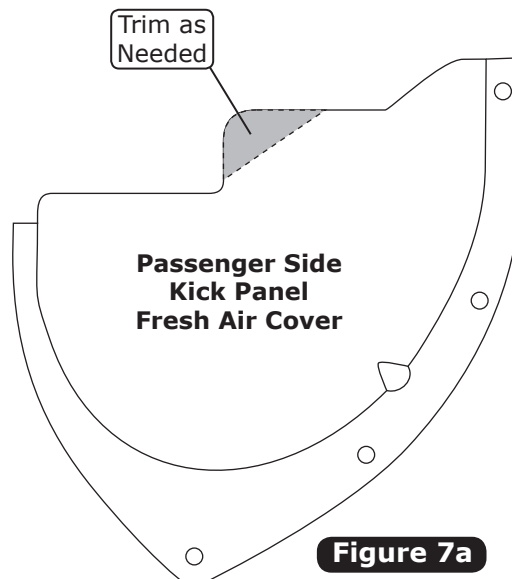

Figure 7a
3. Once the evaporator sub case is installed (See Page 12), trim the passenger side kick panel fresh air cover as needed, and secure using OEM screws (See Figure 7a, below).